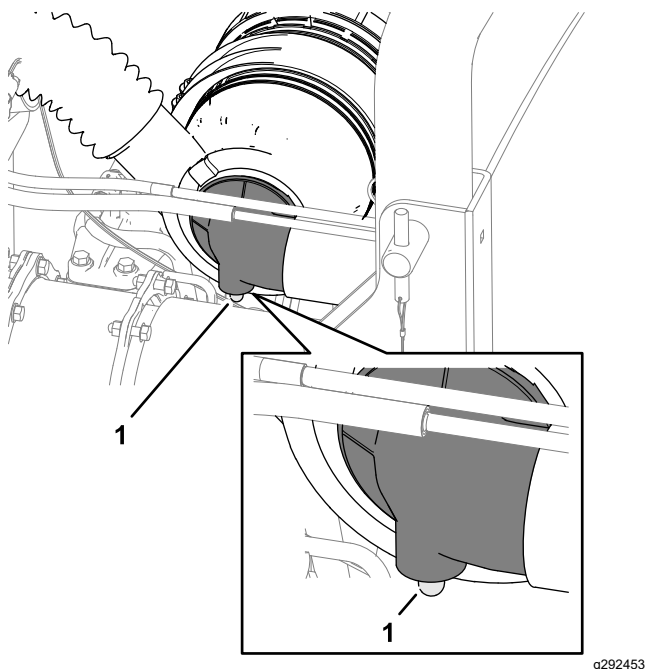

Figure 51
2. Check the air filter-blockage indicator (Figure 51).
Note: Service the primary air filter when the filter-blockage indicator (Figure 51) is red. Changing the air filter frequently increases the chance of dirt entering the engine when the filter is removed.